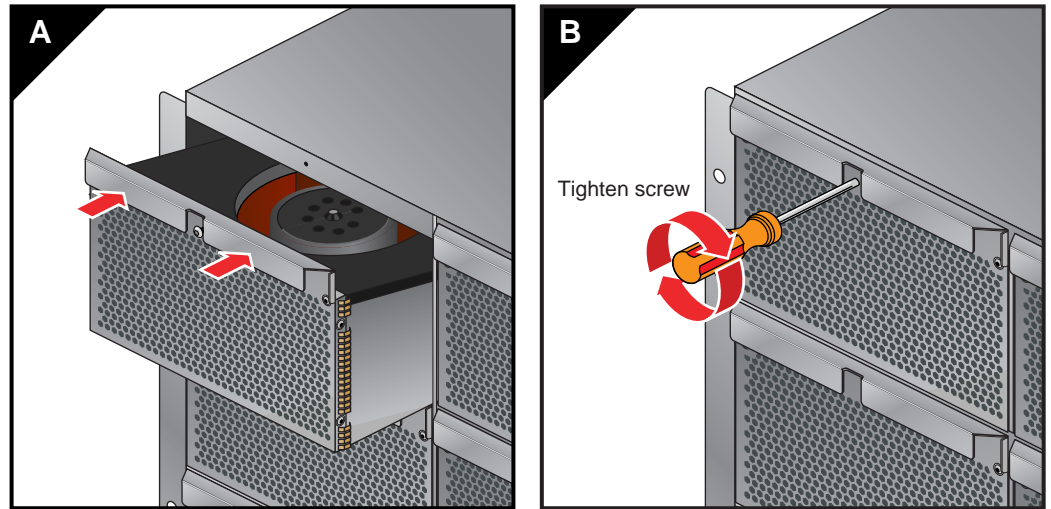

Figure 7-5 Replacing an Enclosure Fan
3. Slide a new blower assembly completely into the open slot, see Figure 7-5.